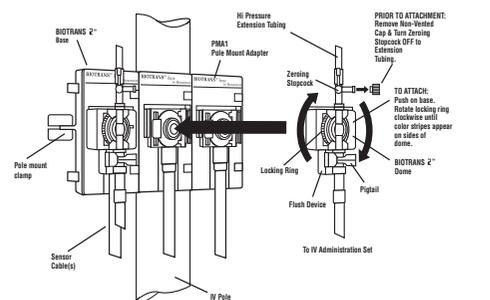

Fig. 4B: Attachment of Primed Biotrans™ II Dome to Biotrans™ II Sensor Base
- Or Mate BIOTRANS™ II Dome on BIOTRANS™ II Base (SEE Fig. 4B) properly by holding Dome on the rotating nut between thumb and index finger, ensure that colour stripes on the rotating nut are under the Dome housing (i.e. the rotating nut is not in locking position) and mate it against Base. Turn the rotating nut 90 degree clockwise to lock them together (blue stripes on the rotation nut must appear between the windows on the Dome).